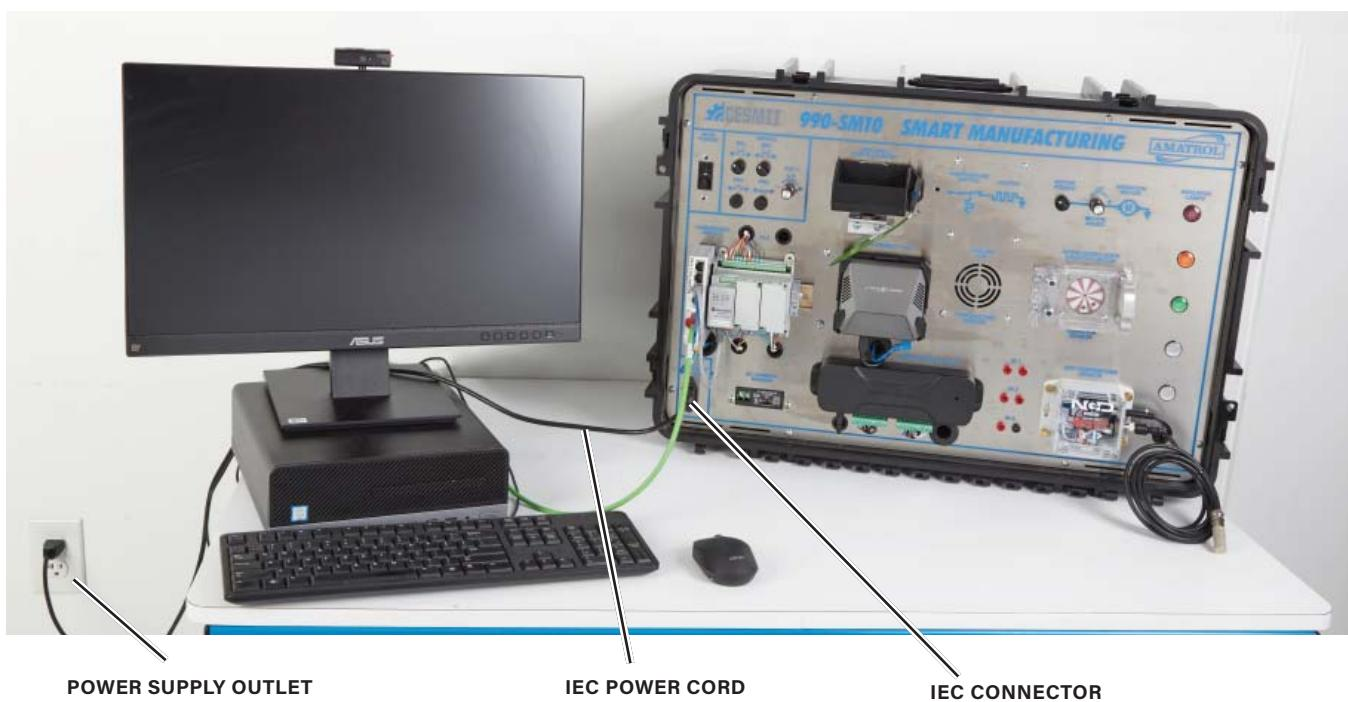

Figure 6-2. IEC Power Cord Plugged into AC In Port and Power Supply Outlet
- Connect the IEC power cord to the IEC connector on the workstation and to an AC wall outlet, as shown in figure 6-2.